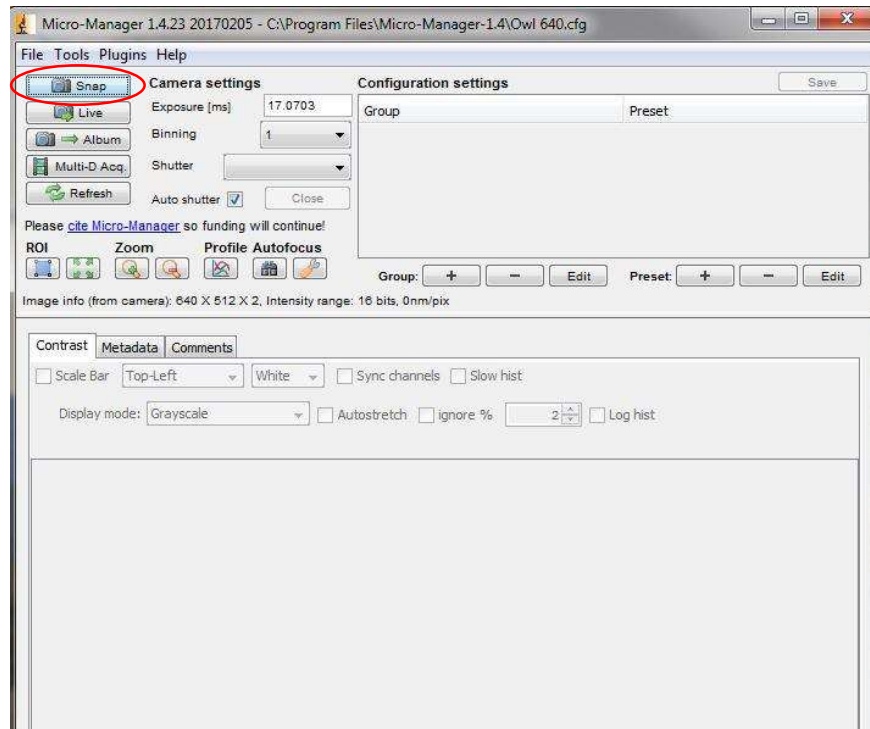
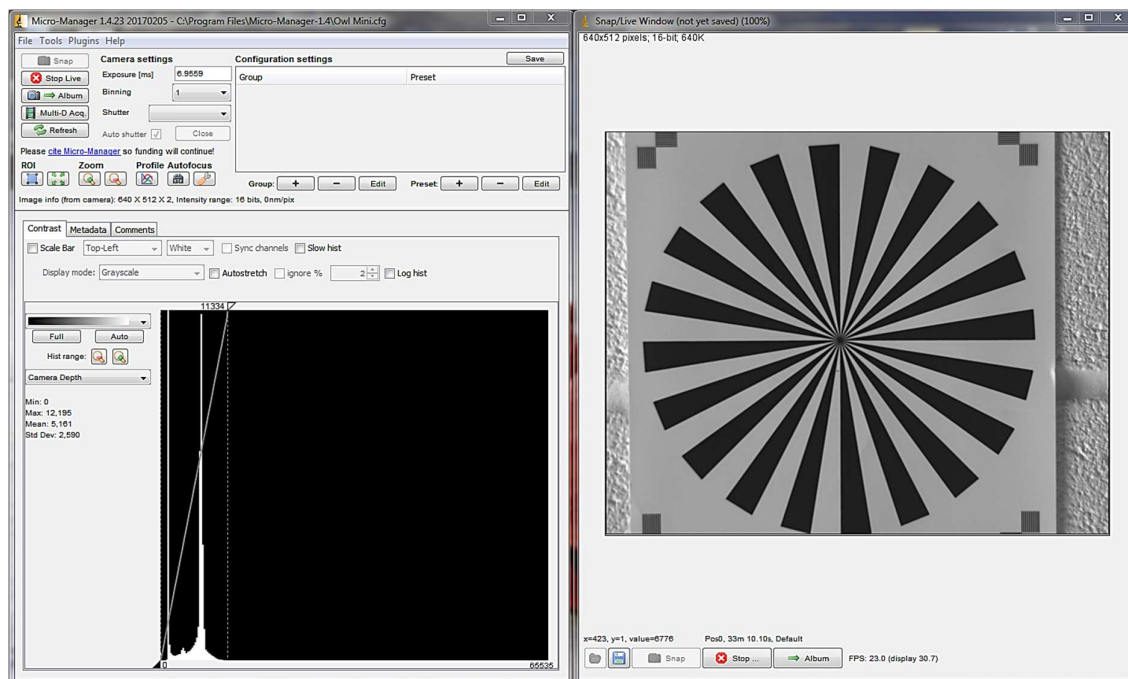

Figure 27: Opening Screen
Figure 28: Viewing Window
1. Click on snap (Figure 27) for Micro-Manager to open the viewing window as shown in Figure 28